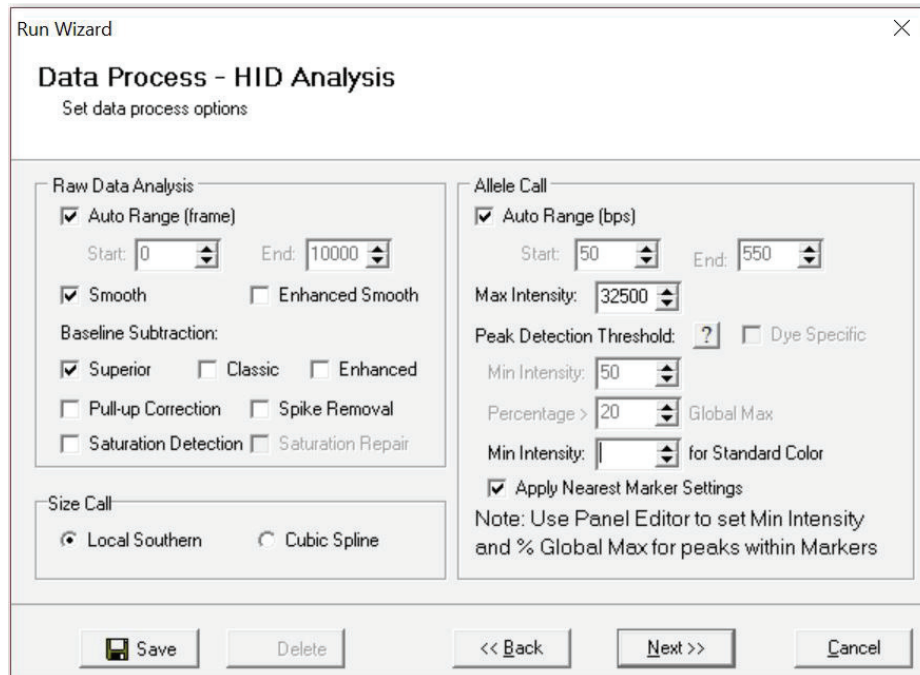

Figure 31. The 'Data Process' window for an analysis method.
9. The 'Data Process' window will appear (Figure 31). For the Raw Data Analysis, we recommend using Auto Range, Smooth, Superior Baseline Subtraction and Local Southern for the Size Call.